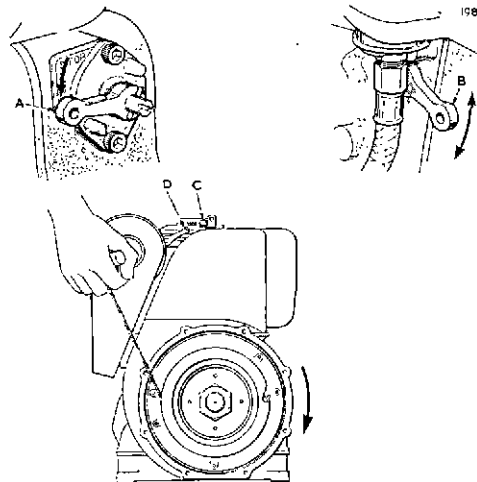

Fig. 4
II. To start (Fig. 4)
- (j) Should the engine fire and then stop, push down and release the overload stop lever (B), if fitted, before attempting to start again.
- (k) Below 13°C (55°F) it may be necessary to operate the priming plunger (C) BEFORE attempting to start. Proceed as follows:
- (i) Remove the priming plunger (C).
12. To stop (Fig. 4)
- (b) Move the stop/run lever (A) to the 'STOP' position, i.e., upward, and hold in this position until the engine stops.